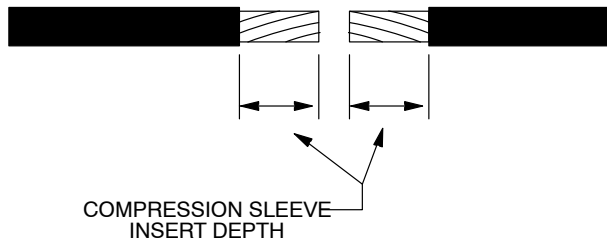

FIGURE 2
2. Check the insert depth of the compression sleeve being used. Remove the length of cable insulation on each cable that corresponds to the insert depth of the compression sleeve. See Figure 2.